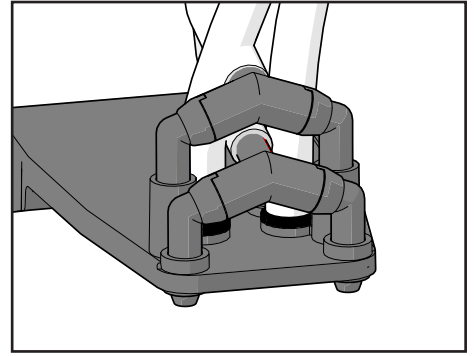

Figure 48.
19. Reconnect the hoses to the outlet and outlet arm (see Figure 48).